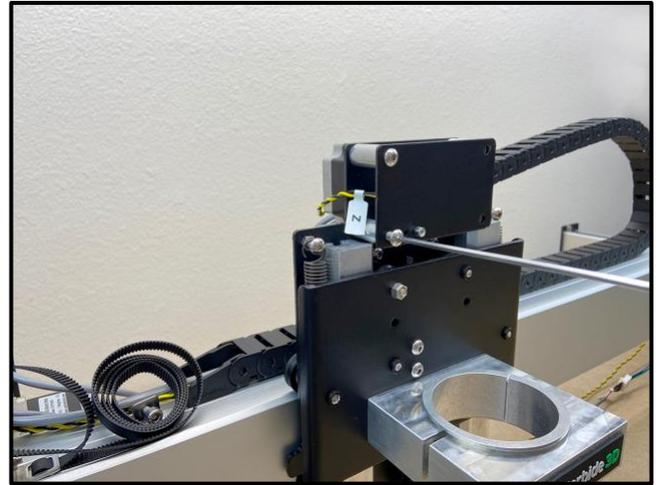
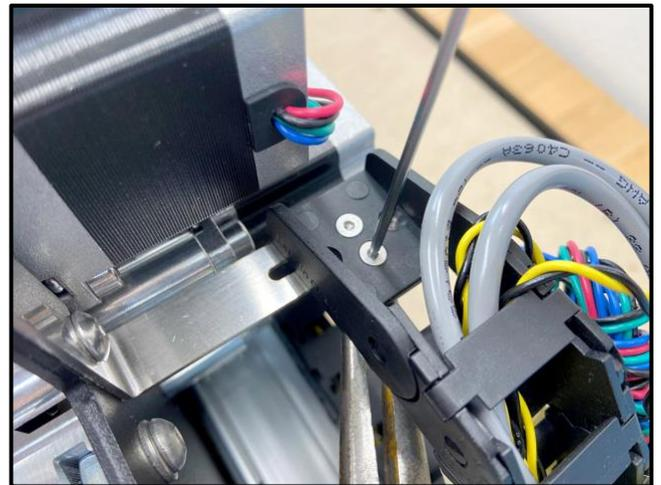
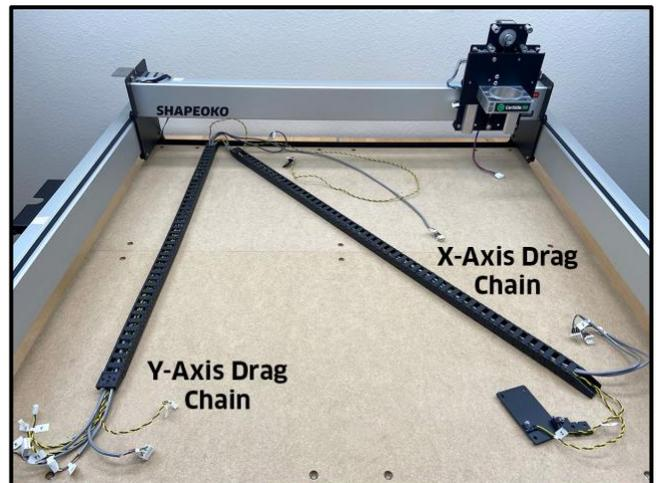

Figure 3
Figure 4
Figure 5
1. Remove the Z-Axis homing switch plate from the front of the X/Z-carriage. See **Fig. 3**.
- a. Use a 3mm hex key to remove the four (4) M5×10mm BHCS securing the plate. (No need to separate any of the switches from their mounting plates.)
- a. Use a 4mm hex key to remove the two (2) M5×35mm SHCS and two (2) 1-inch spacers.
4. Disconnect the X-Axis drag chain from the X-Axis head bracket on the rear of the X/Z-carriage. See **Fig. 4**.
- a. Use a 2mm hex key and needle nose pliers to remove the two (2) M3×8mm FHS and two (2) nylon lock nuts securing the drag chain to the head bracket.
6. Remove the drag chain from the rails and lay it on the baseframe as shown in **Fig. 5**.